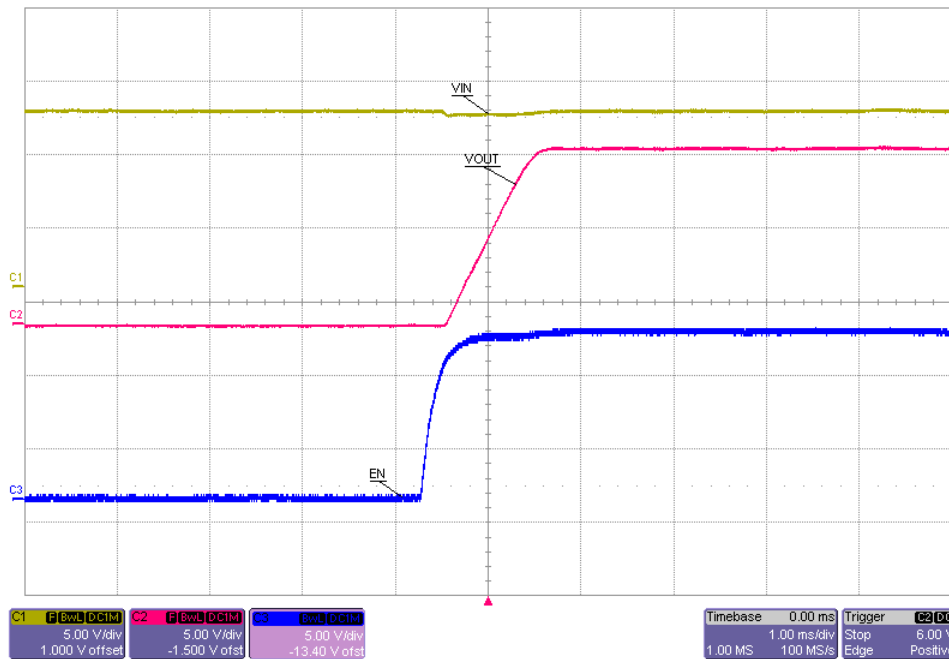

Figure 4. Vout Ramp up Time for CH2
- Set the output load at 100Ω on CH2 and then enable the load. Turn on the power supply, press the EVM RST switch (S2) and release, and verify that VOUT2 (TP16) ramps up as shown in Figure 4.